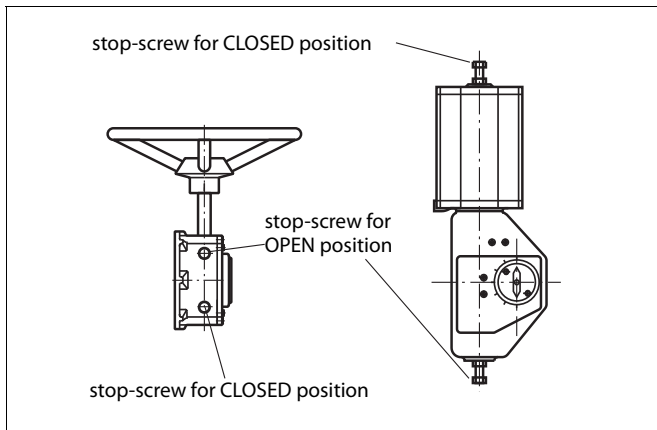

Fig. 30 Open and closed positions of the actuator
- ❑ Adjust the circular movement of the ball with the hexagon screws located at the side of the housing (see Fig. 30).
- ❑ Adjust the ball open and closed positions by means of the actuator stop screws located at both ends (see Fig. 30).